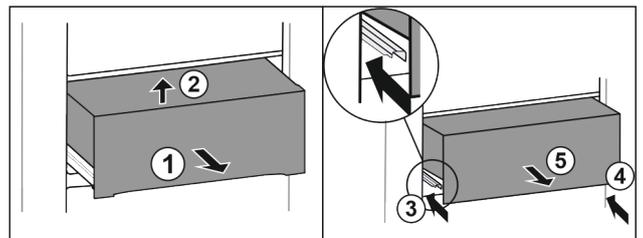

Fig. 30
- ▶ Pull out the drawer half-way Fig. 30 (1).
- ▶ Lift at the front Fig. 30 (2).
- ▶ Insert left rail Fig. 30 (3).
- ▶ Insert right rail Fig. 30 (4).
- ▶ Take out the drawer to the front Fig. 30 (5).